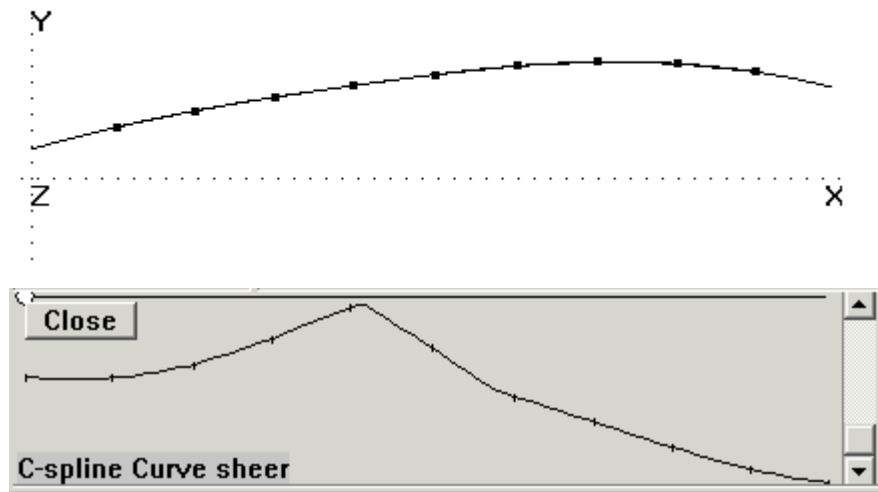
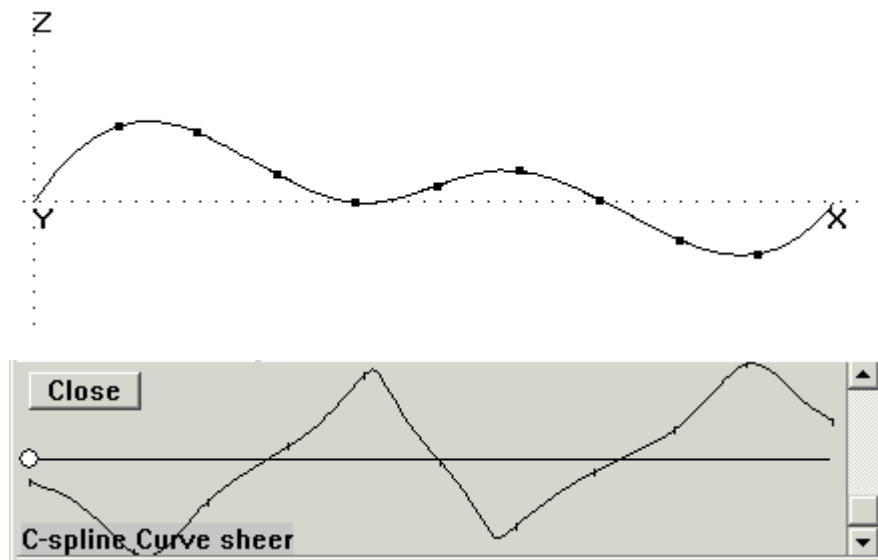
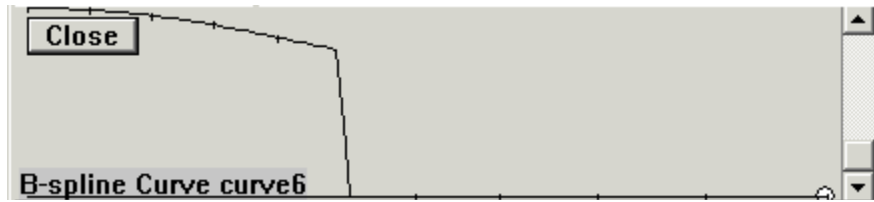

Fig. 1. Curve with tickmarks (top) and graph (bottom) in Front view.
Fig. 2. Curve with tickmarks (top) and graph (bottom) in Top view. There are three inflection points in this view.
Fig. 3. This graph shows zero curvature (a straight portion on the curve) from $t = 0$ to about $t = .5$.
First, the curvature profile graph is a plot of the curvature of the selected curve vs. arc length in its current screen projection. For instance, Fig. 1 and Fig. 2 (see below) show a curve and its curvature profile in Front view and in Top view (the curve and curvature profile would vary at all rotational increments in between as well). Since the curvature profile is marked at t-increments of .1, turning on tickmarks for the curve can provide a good comparative reference. (You turn on tickmarks using the Properties Manager; in the 'Show tickmarks' box click 'True') The circle around one end of the graph axis shows which end of the graph corresponds to the $t = 0$ end of the selected curve.
- negative curvature (below the graph axis) indicates the curve is curving toward the right as you move in the direction of increasing t (see Fig. 1 below)
A zero crossing of the horizontal axis in the curvature profile is an inflection point on the curve (see Fig. 2 below).
Putting yourself in “bug-mode” may be the easiest way to understand all of this. How to be a bug? Just imagine it — you are your favorite bug, walking on your screen in the direction of increasing t , along the selected curve. If as you walk you are curving to your right, that portion of the curve has negative curvature. And conversely, if as you walk you are curving to the left, that portion of the curve has positive curvature. If you are walking straight as an arrow, that portion of the curve has zero curvature (see Fig. 3 below).
Let's read the graph in Fig. 1. The question you might have about the curve in this view is whether or not there is an inflection between $t = .3$ and $t = .5$. The graph proves there is not — the graph does not cross the axis; the curvature is all negative (below the axis). The graph shows a slight increase in (negative) curvature at the beginning of the curve, then a gradual decrease to the area of least curvature between $t = .4$ and $t = .5$, then a gradual increase for most of the rest of the curve.
The graph in Fig. 2 is for the same curve as in Fig. 1, but in a different view. It shows three inflection points. The curvature gradually increases and decreases; there is no sharp discontinuity in the curve. By contrast, the graph in Fig. 3 (for a degree-2 B-spline Curve) shows a sharp discontinuity in curvature, at $t = .5$.
Continuing to read Fig. 3, note that $t = 0$ for this graph is at the right-hand end of the axis. The stretch of this graph with zero curvature proves that the curve is straight from $t = 0$ to almost $t = .5$, then there is the sharp increase in (positive) curvature, then the curvature is almost constant to the end.